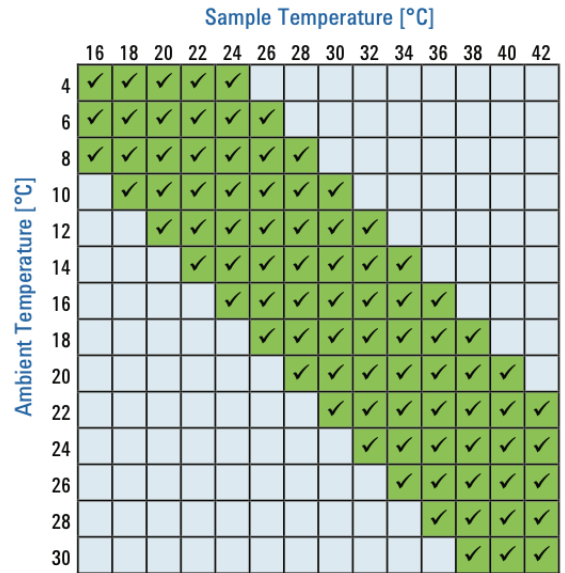
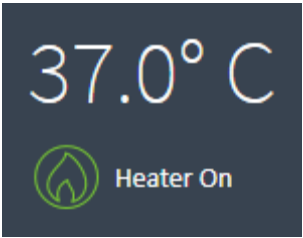
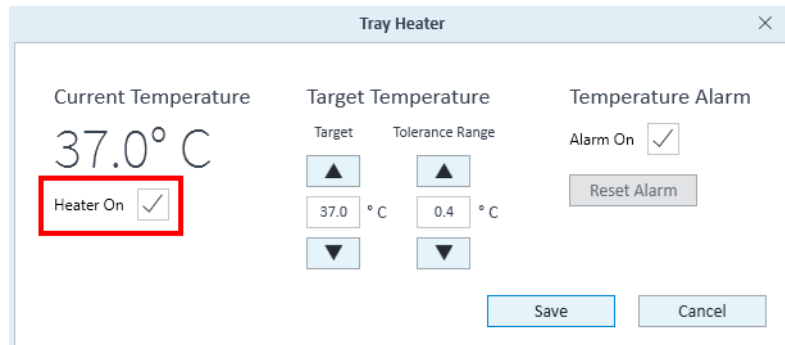

Figure 81. Temperature chart
Figure 82. Temperature widget
Figure 83. Edit temperature settings window
Seahorse XF Pro Analyzers have been validated to deliver desired target temperatures in the range of 16-42 °C provided the ambient room temperature is 8-20 °C below the target temperature, and in the validated operational room temperature range of 4-30 °C. To understand the relationship between the sample temperature and ambient temperature, see Figure 81 on page 72 for the temperature chart.
- If required to set up the XF Pro Analyzer in cold room, avoid direct fan sources. (See Figure 81 on page 72.)
(See Figure 82 and Figure 83 on page 72.) Ensure your ambient conditions support the desired target temperature (12-20 °C above ambient). Refer to the temperature chart shown in Figure 81 on page 72.